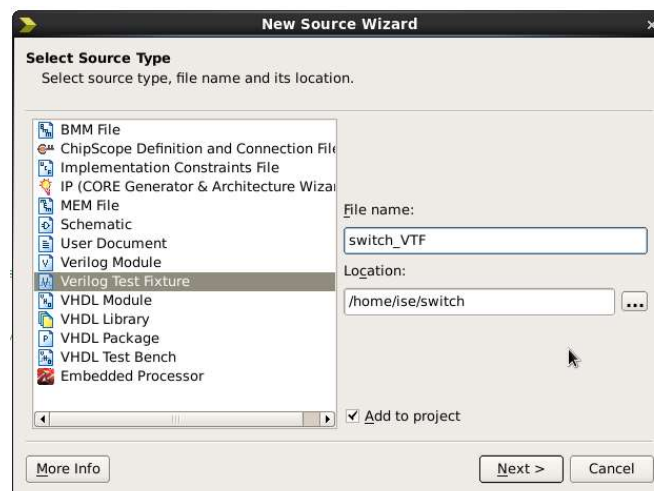

Fig 1.14: Verilog Test bench
15. Now in order to check the **functionality** of the design, we have to apply test vectors and simulate the circuit. In order to apply test vectors, a **test bench** file is written. Through test bench, all the possible inputs are applied to the module and the output is verified. For “switch” the test bench can be created by one of the following methods. Either right click on the design (switch.v) and select **New Source** or, click on **New Source** from the **Project** menu. A **New Source Wizard** window will be opened. In the New Source Wizard window select **Verilog Test Fixture** as shown in the Fig 1.14.